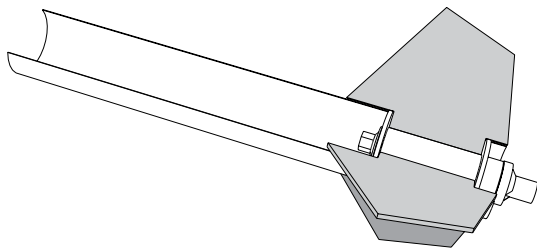
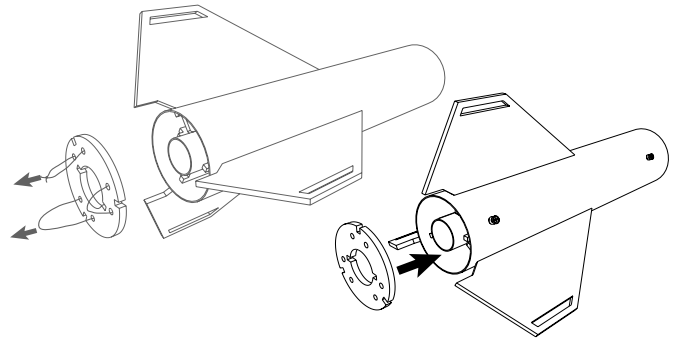

Figure 10: The motor tube should extend just further than the fin tabs for maximum fin strength.
Figure 11: A removable aft centering ring allows you to come back and put glue fillets inside the tube.
3. Our next consideration is if the rocket has through-the-wall fins. If it does, we want the minimum length of the motor tube to extend a little further into the rocket than the forward edge of the fin slots. Ideally, we want the fin tab to butt up against the centering rings inside the motor mount as shown in Figure 10. What this does is
The one challenge with assembling the motor mount shown in Figure 10, is that you can't easily put glue fillets internally where the fin tab touches the tube and the centering rings. There are a couple of ways that you might be able to get around this issue. The first is like what we did on our Zephyr rocket kit (<https://www.apogeerockets.com/Rocket-Kits/Skill-Level-3-Model-Rocket-Kits/Zephyr>). The aft ring has holes in it so that a string can be woven through them. The string makes a handle that allows the temporarily installed ring to be pulled out of the tube after the fins were tack-glued in. With the back end open, you can easily apply glue fillets to all the internal joints between the fin tabs and the tube and the forward centering ring. Once the glue is hard, the aft centering can then be glued in place against the rear edges of the fin tabs. See Figure 11.